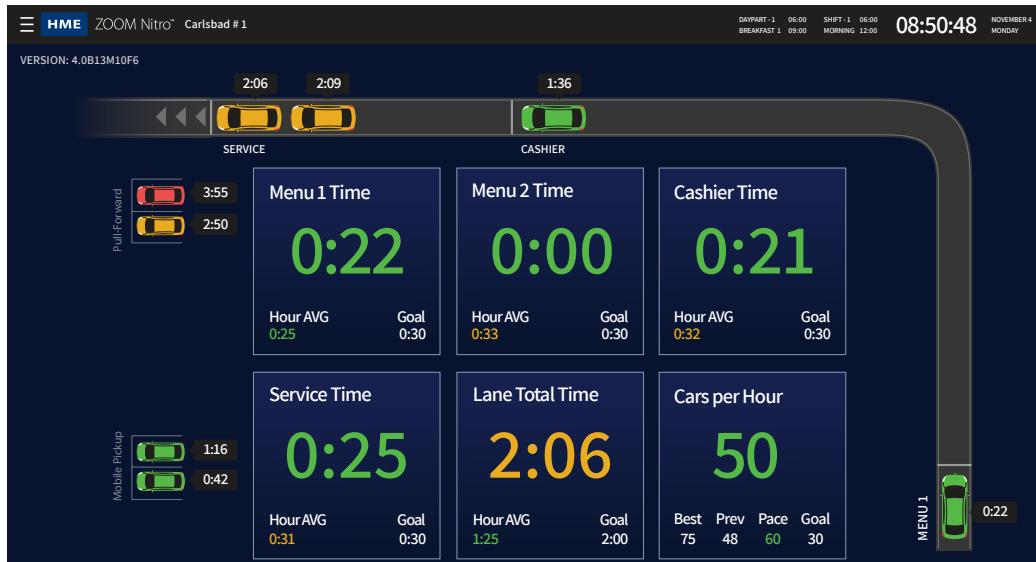
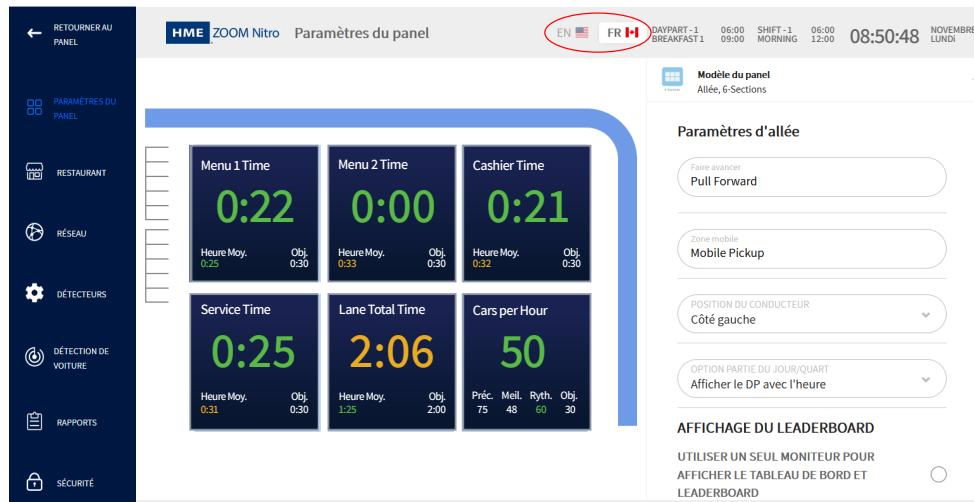

Fig. 1.9
Fig. 2.2
**"Menu"** A typical user-defined descriptive label for a detection point or zone. The measured event for this point/zone is generally displayed in a Data Section (see the top left Data Section of Fig. 1.9 titled "Menu 1 Time").
**"Cashier"** A typical user-defined descriptive label for a detection point or zone. The measured event for this point/zone is generally displayed in a Data Section (see the top right Data Section of Fig. 1.9 titled "Cashier Time").
**"Service"** A typical user-defined descriptive label for a detection point or zone. The measured event for this point/zone is generally displayed in a Data Section (see the bottom left Data Section of Fig. 1.9 titled "Service Time").
The ZOOM Nitro system installation is initially configured to your specifications by the installer. Fig. 1.9 is an example of the default Dashboard screen. If you wish to customize your system further or make changes to your current settings, you can connect a mouse to a USB port on the CU (this enables you to access the menu on your Dashboard monitor). Or, if your system is connected to the same network as your back-office PC, you can use the back-office PC to make changes.
To customize and configure your Dashboard, click on the  (menu) icon in the upper left corner of the screen. The SECURITY (Login) screen appears (see Fig. 1.9). Log in by selecting your assigned User Type and password. This opens the Dashboard Settings screen. The default language is English; to switch to French, click on the Canadian flag icon  at the top of the screen (see Fig. 2.2).